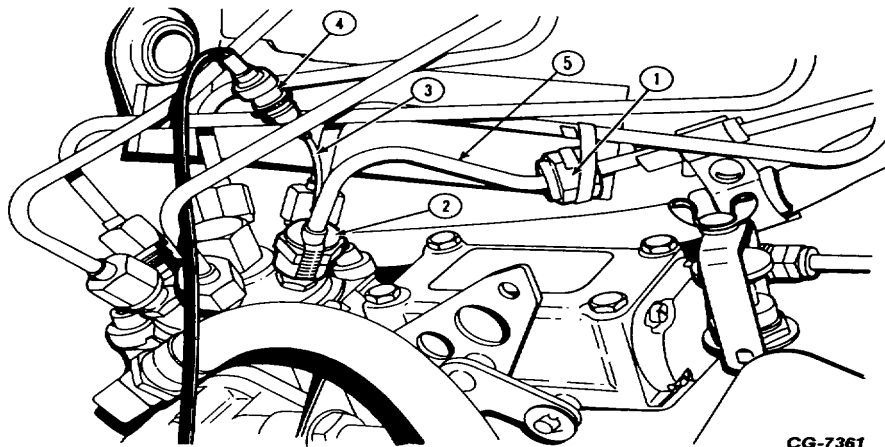

Figure 7. 14 mm Split-Nut Transducer Installed
- a. Remove the fuel line connector nut (1, Figure 7) and slide it up the pipe. Secure the displaced nut with tape to prevent bouncing of the nut and possible erratic readings.
- b. Install the 14 mm Split-Nut Transducer (2, Figure 7) over the fuel line by slipping the slotted portion of the transducer on the line and tighten the Split-Nut Transducer to allow slight fuel leakage at the split-nut when the engine is started. Tighten the split-nut only until leakage stops. Use of
NOTE: When applying or removing the Split-Nut Transducer always make sure the short coaxial (white) cable (3, Figure 7) is not caught up in the lines. Pulling apart of the short white cable from the transducer damages the ground, causing erratic readings.
6. Connect the lead (4, Figure 7) provided to couple the tachometer and timing light unit (SE-2783) or (3005A) to the white coaxial cable at the 14 mm Split-Nut Transducer (2, Figure 7).